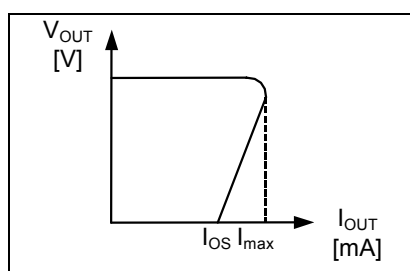

Figure 18
The S-87x Series has a built-in short-circuit protection circuit to protect the element from break caused by a large current in case of a short circuit. The output short current is internally limited to approx. 70 mA. Short-circuit protection circuit has three kinds characteristics according to input voltage (V_{IN}) as shown in **Figure 18 to 20**.
- (1) At the time of voltage detection, the voltage regulator is shutdown and load current is cut. Therefore, VIN pin voltage increases by $\Delta V_{IN} = I_{IN} \times R_{IN}$, where the current flowing into R_{IN} is set to I_{IN} . Hence, if ΔV_{IN} exceeds hysteresis width (V_{HYS}), oscillation starts immediately after detection and continues. It is necessary to set ΔV_{IN} less than V_{HYS} .
- (2) At the time of voltage release, the voltage regulator is powered on and load current flows. Therefore, if ΔV_{IN} exceeds hysteresis width (V_{HYS}), oscillation starts immediately after release and continues. It is necessary to set ΔV_{IN} less than V_{HYS} . Also at the time of voltage release, the rush current to charge output capacitor (C_{OUT}) flows. Hence, oscillation momentarily starts until the output of regulator (V_{OUT}) rises high enough even though ΔV_{IN} is set less than V_{HYS} . But Short-circuit protection circuit controls the rush current less than I_{MAX} on Figure 18 to 20. If this momentary oscillation is a problem in your application, setting R_{IN} less than V_{HYS}/I_{MAX} prevents oscillation.